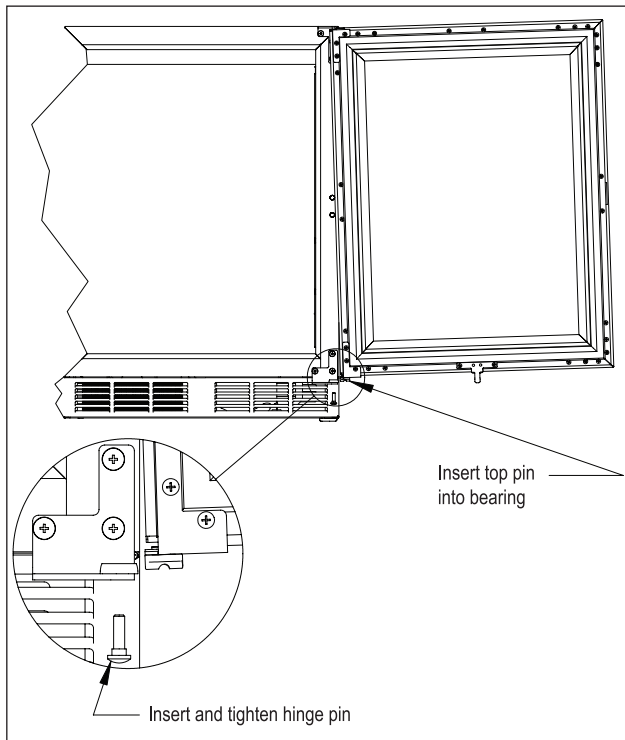

Figure 16. Installing Door
13) Lift the door assembly and insert the top pin into the bearing. Move door toward cabinet and align the V-blocks (Fig. 16).